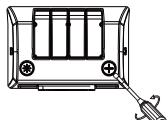

figure 14
- Step 3: After adjusting the required control function(figure 13), tighten the metal plug and the plastic plug clockwise (figure 14).